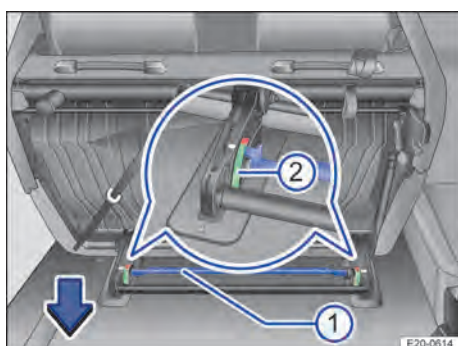

Fig. 75 Second row of seats: Installing the two-seat bench.
2. Press the rods → Fig. 75① downwards in the direction of the arrow until both locking marks ② are in the green area.